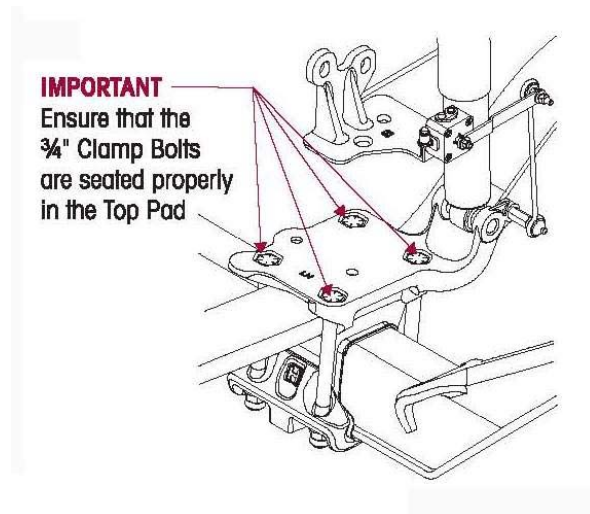

Figure 5
25. Tighten the clamp group locknuts evenly in 70 Nm (50 lbf-ft) increments to 386–414 Nm (285–305 lbf-ft) torque in the proper pattern to achieve uniform bolt tension (see Figure 5).